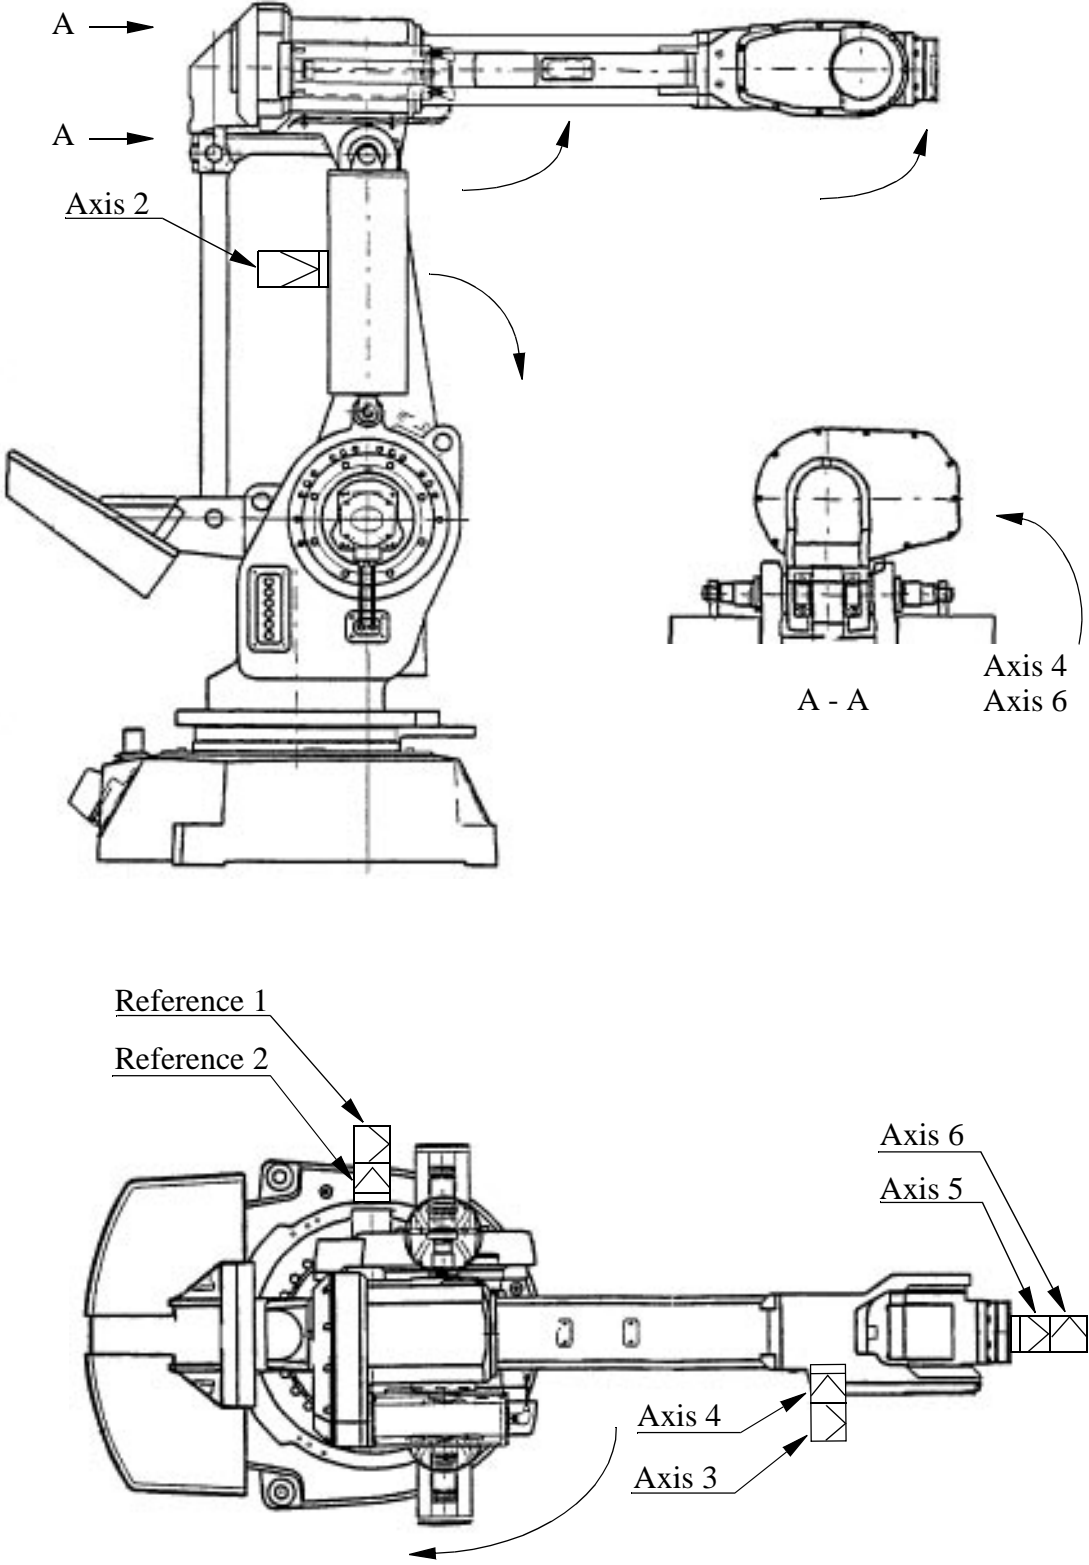

Figure 12 Movement directions for calibration, reference surface.
1. Position the manipulator approximately in calibration position 0 as shown Figure 12.
- Mount inclination instrument 6807 081-D. One sensor is to be mounted on the reference plane and the other on the elbow fixture for axis 2. Both sensors are to be positioned in the same direction. See also Figure 12.